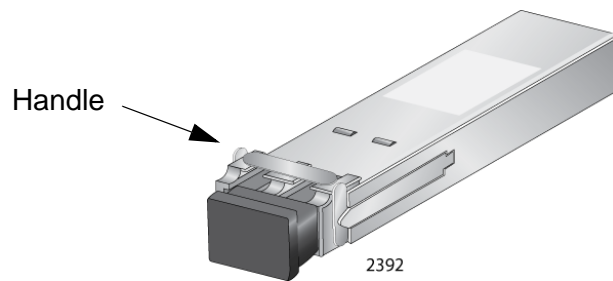

Figure 108. Handle on the XFP Transceiver
3. Orient the transceiver with the handle on top, as shown in Figure 108 on page 169.